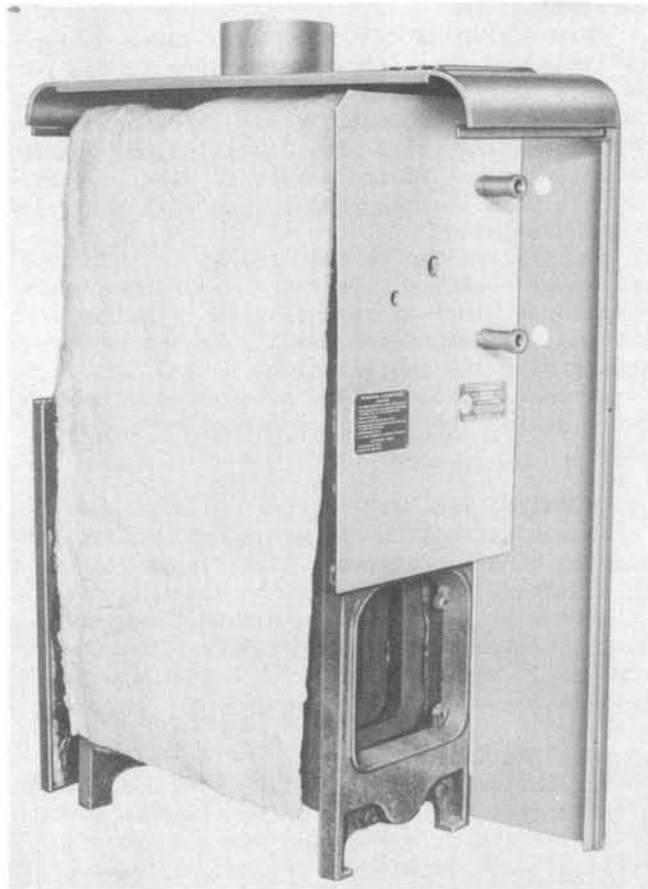

Figure 5. Insulation, Division Panel
4. Hold front insulation in place and make cut-outs for all tapped openings on front of boiler. Then cover insulation with front sheet metal division panel and screw in necessary nipples or plugs and controls (see figure 5).
5. Place side panels in position and fasten front division panel to side panels by means of sheet metal screws. Mount top panel in position and fasten to side panels with sheet metal screws (see figure 5).
16. Next turn nuts on the ends of the two 1/4" x 6" long studs. Then insert the studs into the holes in the cast lugs on the front section and fasten in place with additional nuts (see figure 5).